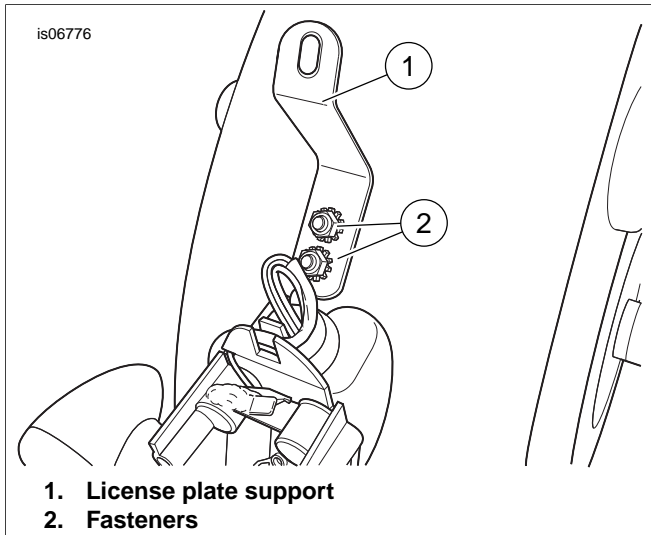

Figure 3. License Plate Support
- See Figure 3. Install the new license plate support and the tail lamp connector cover clip using the stock fasteners. Tighten fasteners to 60-90 **in-lbs** (6.8-10.2 Nm)